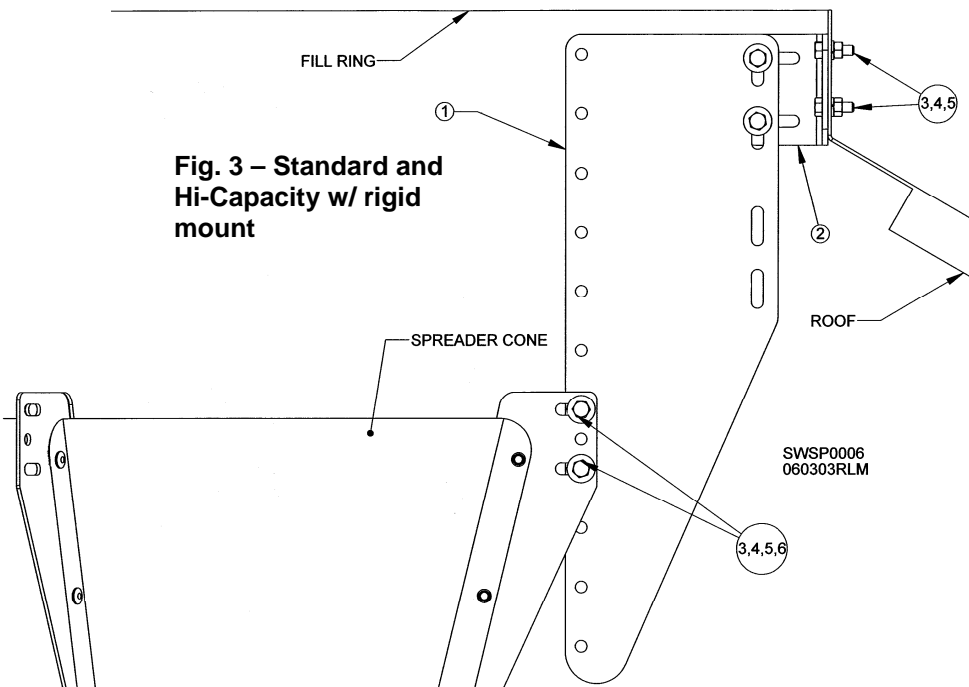

**Fig. 2 – Mounting pans to spreader**
4. To mount pan to spreader, lower pitch adjusting rod by loosening locking handle and pre-spread disc inside of cone. Lower adjusting rod so its end is about 3" below main bearing shaft. See Fig. 2. One end of stationary pitch control arm comes mounted to pan. Mount other end of control arm to main bearing shaft. Secure with hairpin clips. Repeat this step for second pan.
5. Remove hinge pin from adjusting rod. Place spreading pans and pitch adjusting rod together and replace hinge pin. Secure hinge pin with hairpin clip. Hairpin clips should be snapped on all the way. See Fig. 2. See operating instructions for setting angle of pans.
Center flow holes (see Fig. 2) control amount of grain that falls in center of bin. If grain is too high in center, rotate cover to make opening smaller. If grain is too low in center, rotate cover to make opening larger.